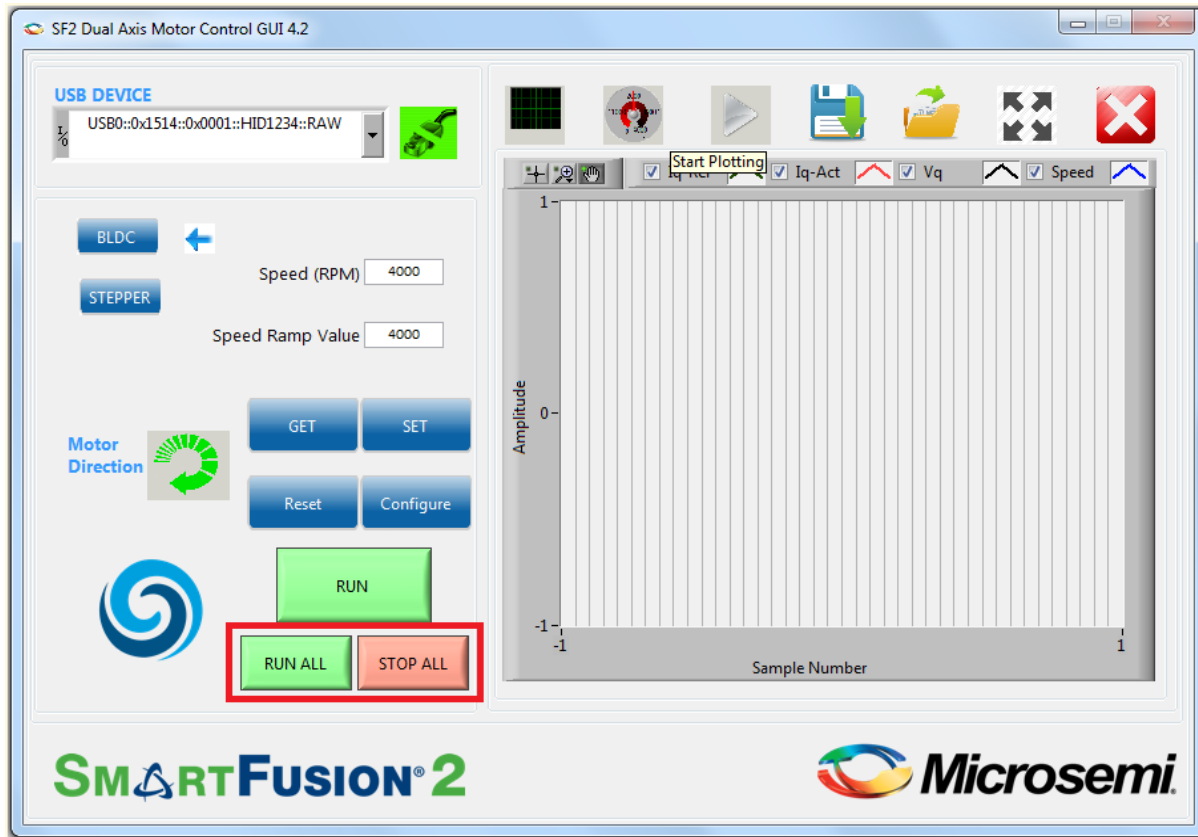

Figure 20 • SmartFusion2 Motor Control GUI - Run or Stop All Motors
4. Click **Run All** to run all the motors and click **Stop All** to stop all the running motors. These buttons are highlighted in Figure 20.